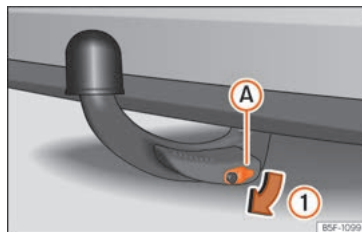

Fig. 299 Removing the lock cover.
- Remove cover (A) from the lock in the direction of arrow (1) » Fig. 299.